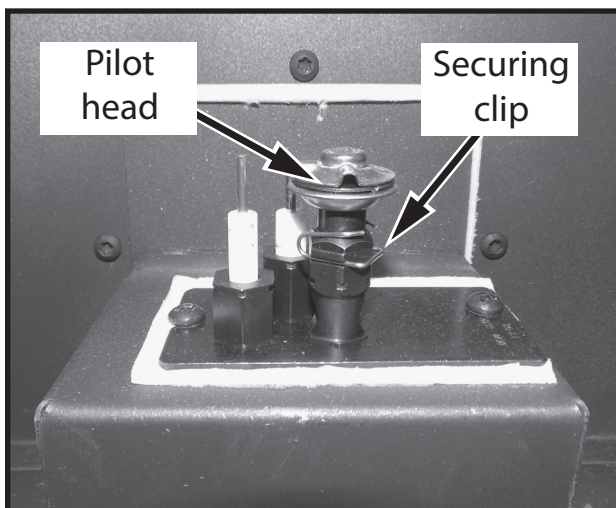

Figure 59: Pilot head and securing clip.
8. Remove the pilot head by taking the securing clip off and lifting the head off of its support (Figure 59). This will prevent damage while the the pilot control panel is being extracted through the rear of the unit.